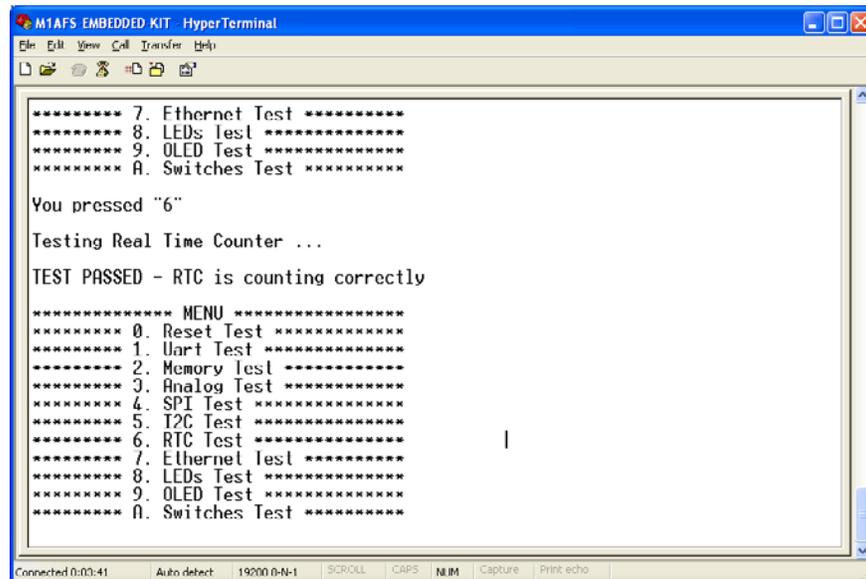

Figure 2-8 · RTC Test Results
9. Enter '6' into the terminal to begin the RTC test. If successful, the test results appear on the screen (Figure 2-8).